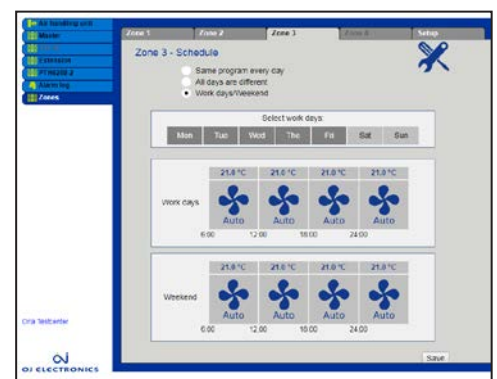

Fig. 3
- Is the same for weekdays and for weekends (see fig. 3)